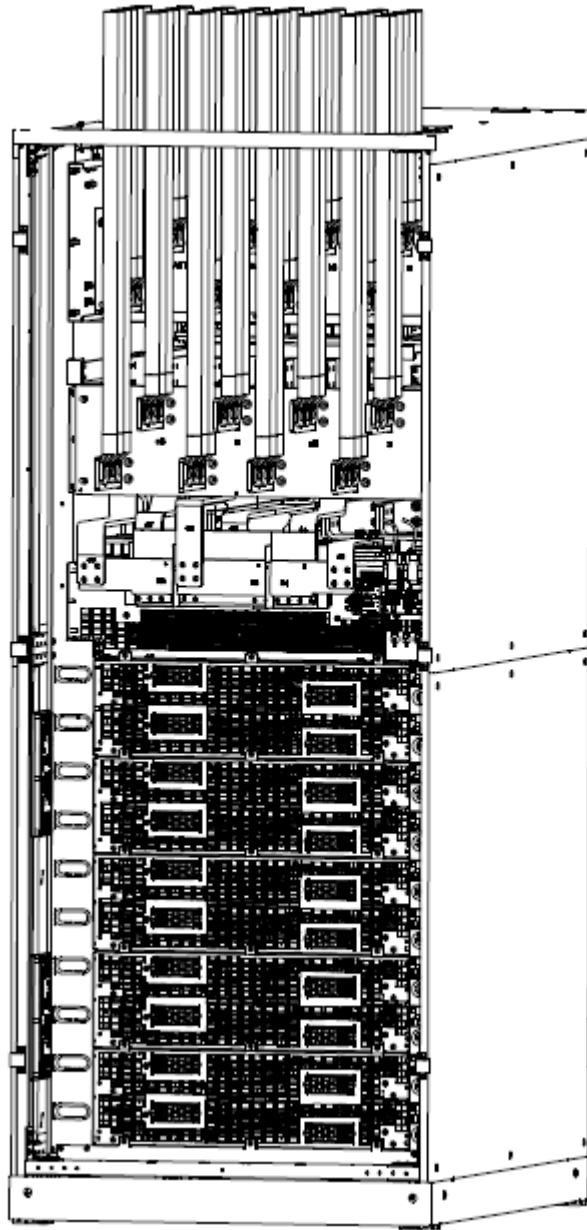
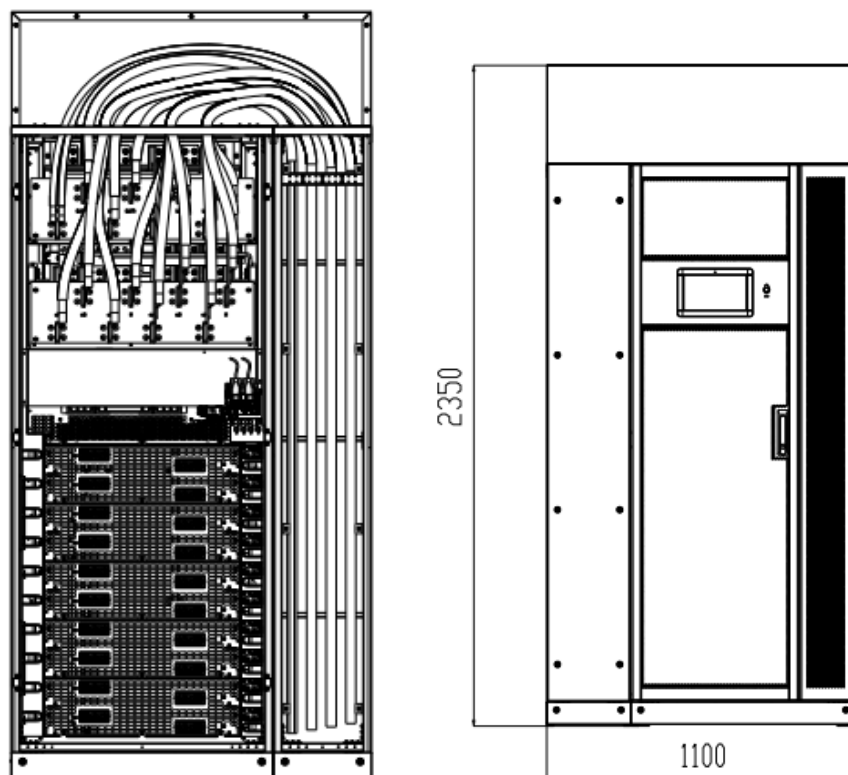

Figure 3-10 Diagram of top cable entry
Figure 3-11 Diagram of bottom cable entry
The cabinet support enters from the top side. The cable entry is shown in Figure 3-10. If you need to enter from the bottom side, a bottom-entry cabinet is optional. The bottom-entry mode and size of the system are shown in Figure 3-11.
Step 4: Connect the AC main input cable to the input terminal (mA, mB, mC, N); Connect the AC bypass input cable to the bypass input terminal (bA, bB, bC, N); Connect the output cable to the output terminal (oA, oB, oC, N), as shown in Figure 3-10 or 3-11.